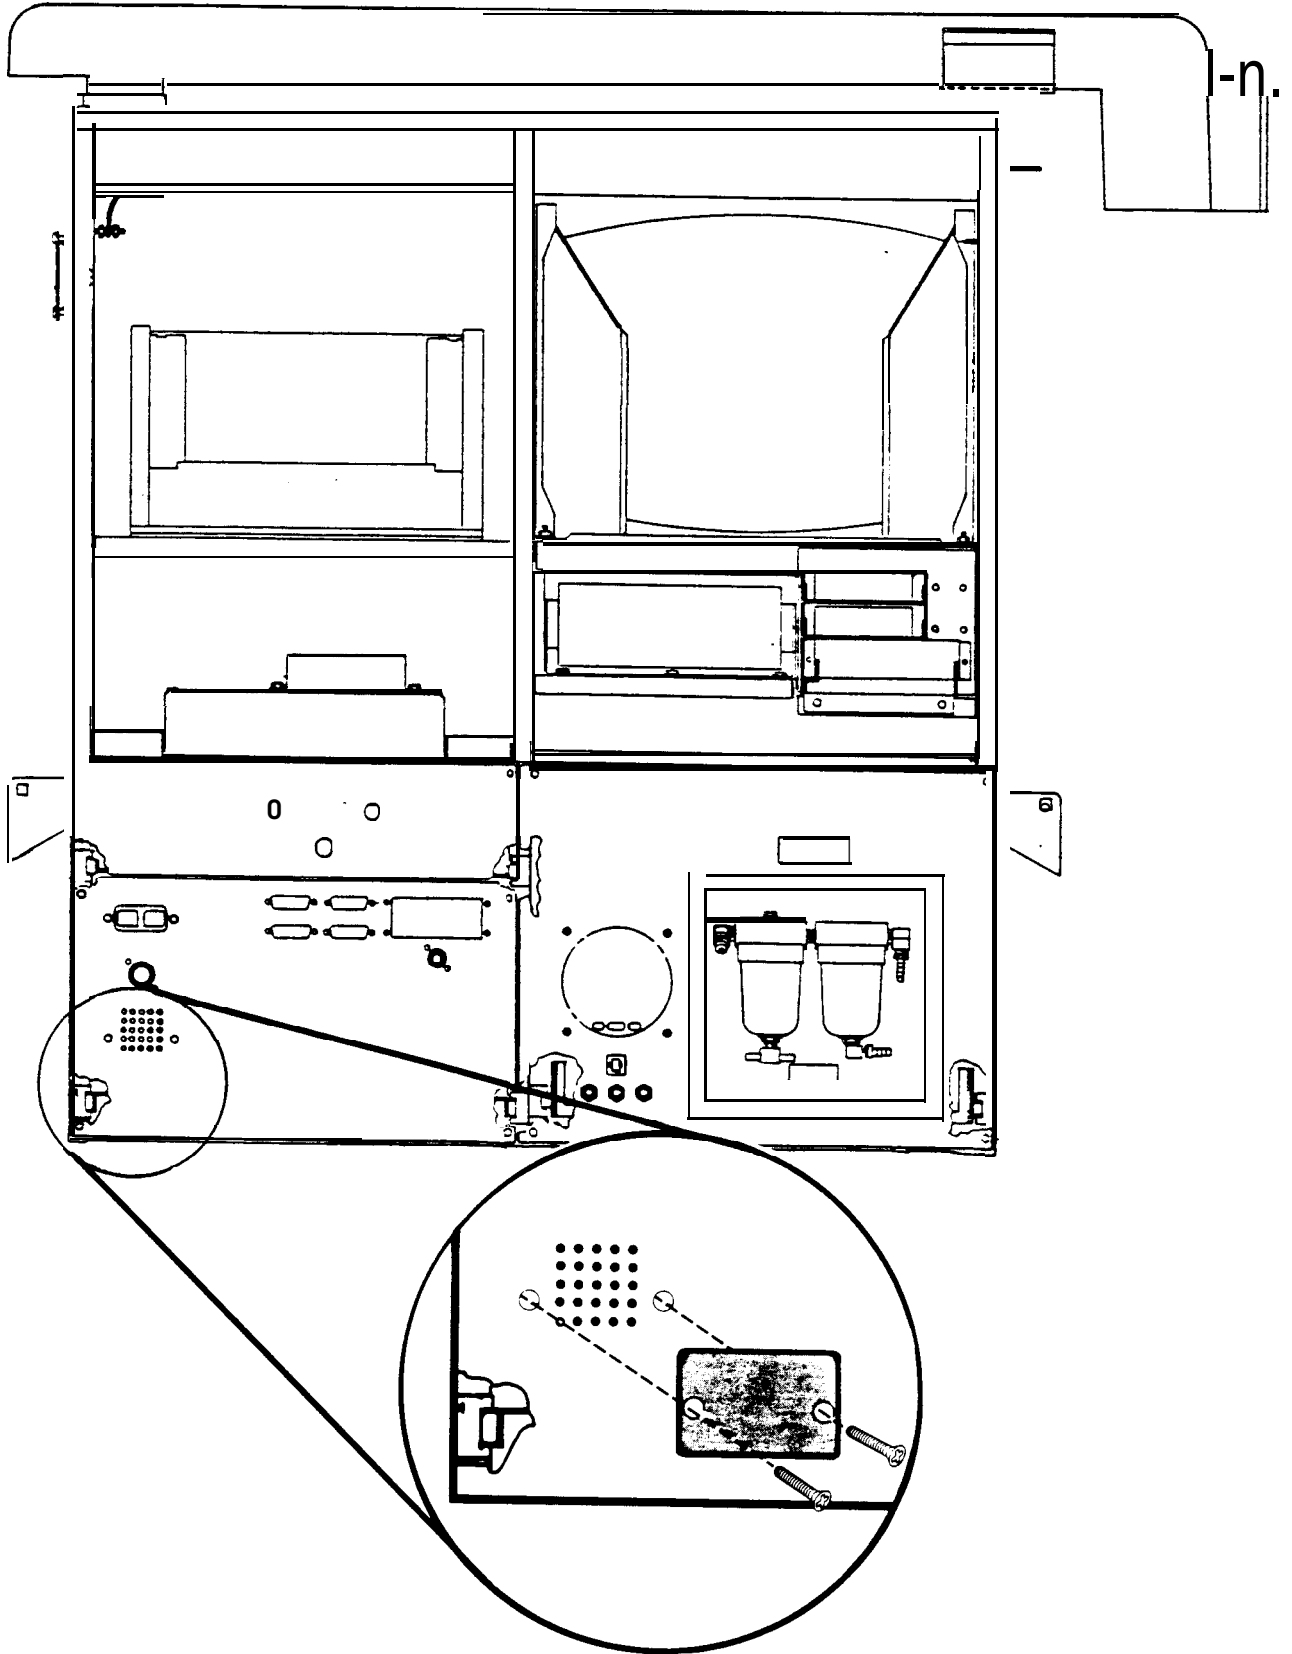

Figure 1. VENT COVER LOCATION
1. Refer to Figure 1 (see page 2) to locate vent in Computer Module Drawer on rear of the MCA 3000.